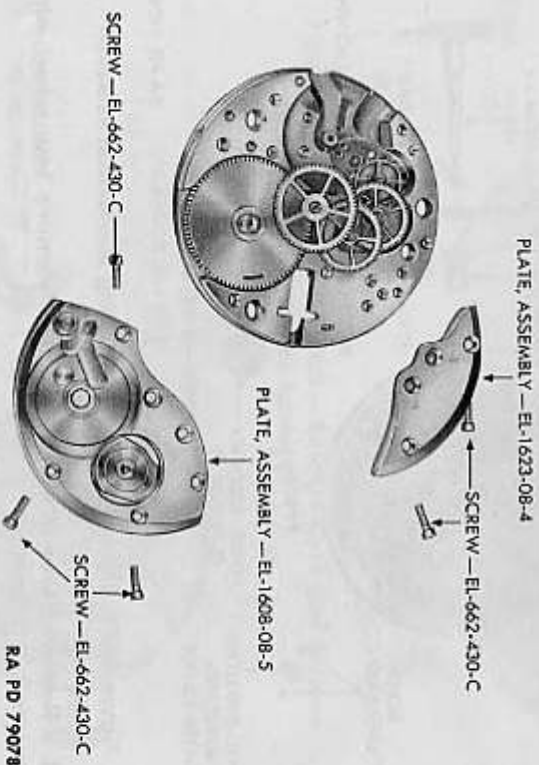

Figure 139 — Elgin Wrist Watch — Train and Barrel Plate Assemblies Removed
l. Remove Train and Barrel Bridges (fig. 139). Remove train and barrel bridge screws and remove bridges. If bridges are tight, insert screwdriver in slots provided in pillar plate and pry loose carefully.
d. Replace Bridges (fig. 139). Replace the barrel bridge assembly aligning the pivots of the center and third wheels in their respective pivot holes. Secure in place with bridge screws. Replace train bridge assembly, aligning the pivots of fourth and escape wheels in their respective holes. Secure in place with bridge screws.